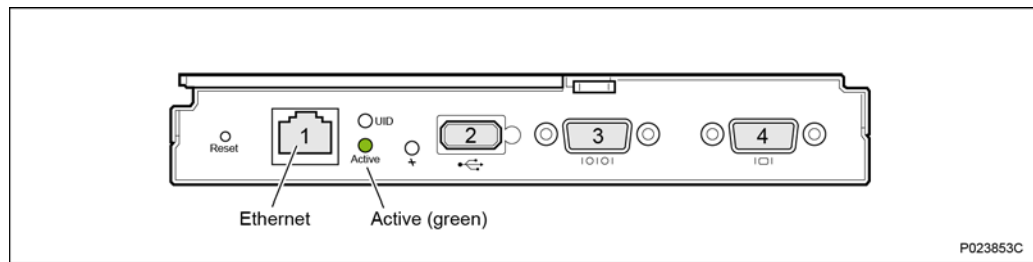

Figure 1 Onboard Administrator Module
- An RJ45 cable to connect the kickstart server to the Onboard Administrator (OA). See Figure 1.